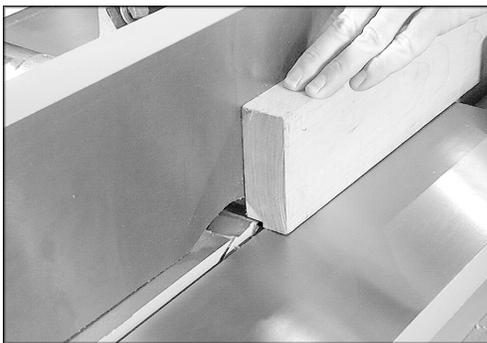

Figure 22
A rabbet is a groove cut along the edge of a board. See Figure 22. The width and thickness of the wood to be rabbeted depends upon the width and length of the rabbet. However, never rabbet a piece of wood less than 12" long.
7. Reconnect power. It is easier and safer to take a series of shallow cuts. Lower infeed table 1/32" at a time and make successive cuts until the desired depth of rabbet has been obtained. See Figure 22.